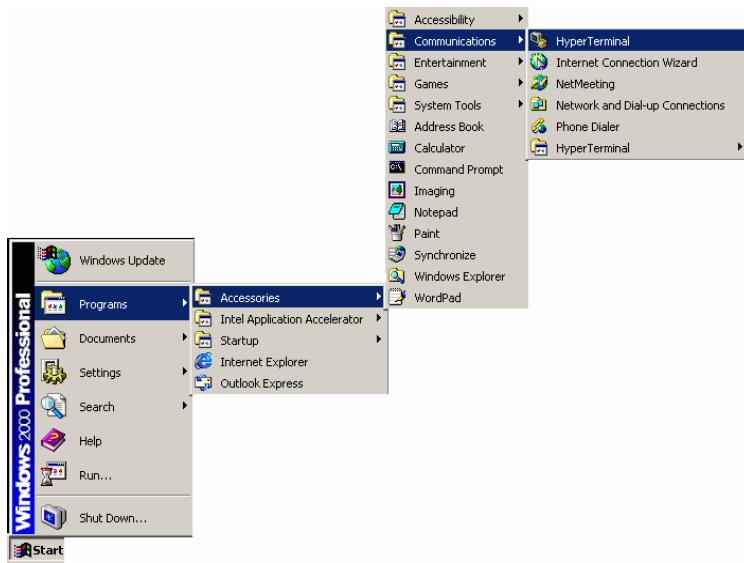
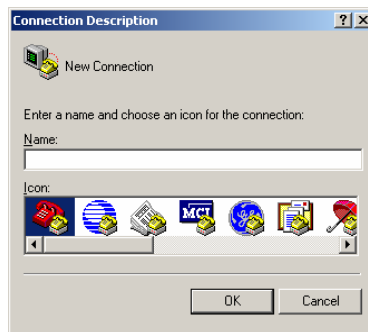

Figure 6. Start Hyper Terminal function
Figure 7. Connection Description
**Step 1.** Click *Start*  *Accessories*  *Communications*  *HyperTerminal* (Figure 6), and then the *Connection Description* screen will be shown as Figure 7.